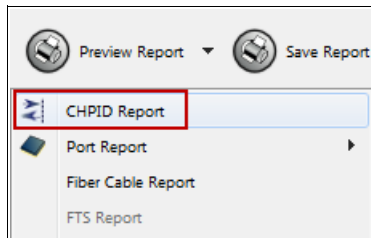

Figure 4-36 Process Intersections run successfully message
7. Click **OK** (see Figure 4-36).